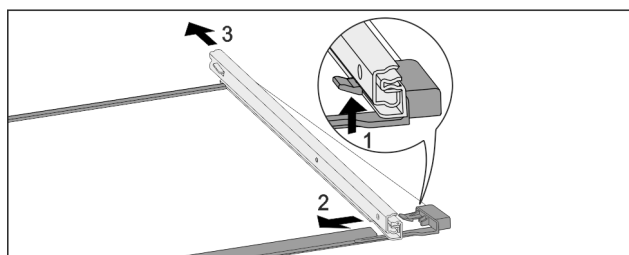

Fig. 105 Glass shelf with rails
- Push up front click-in hooks. Fig. 105 (1)
- Move the pull-out rails to the side Fig. 105 (2) and to the rear Fig. 105 (3).